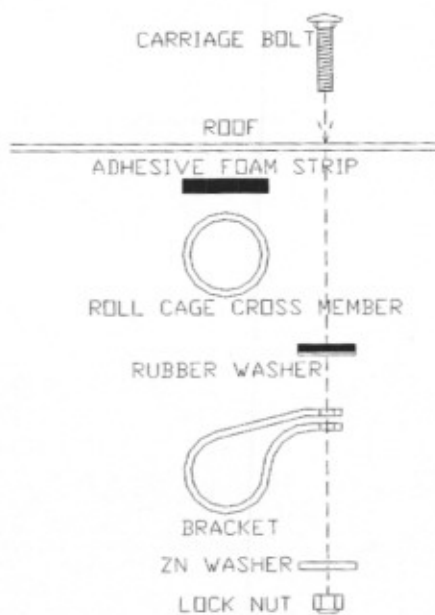

Figure 6
7. Next, attach the roof mount brackets according to **Figure 6 on next page**. Use channel locks or pliers to hold top of carriage bolt and turn nut with 7/16" socket.